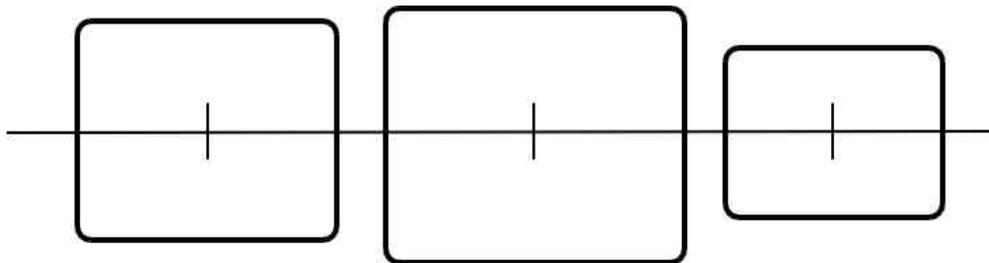

Fig 1. Align horizontally on center
- Raise or lower each monitor so that their centers are aligned horizontally (Fig. 1).